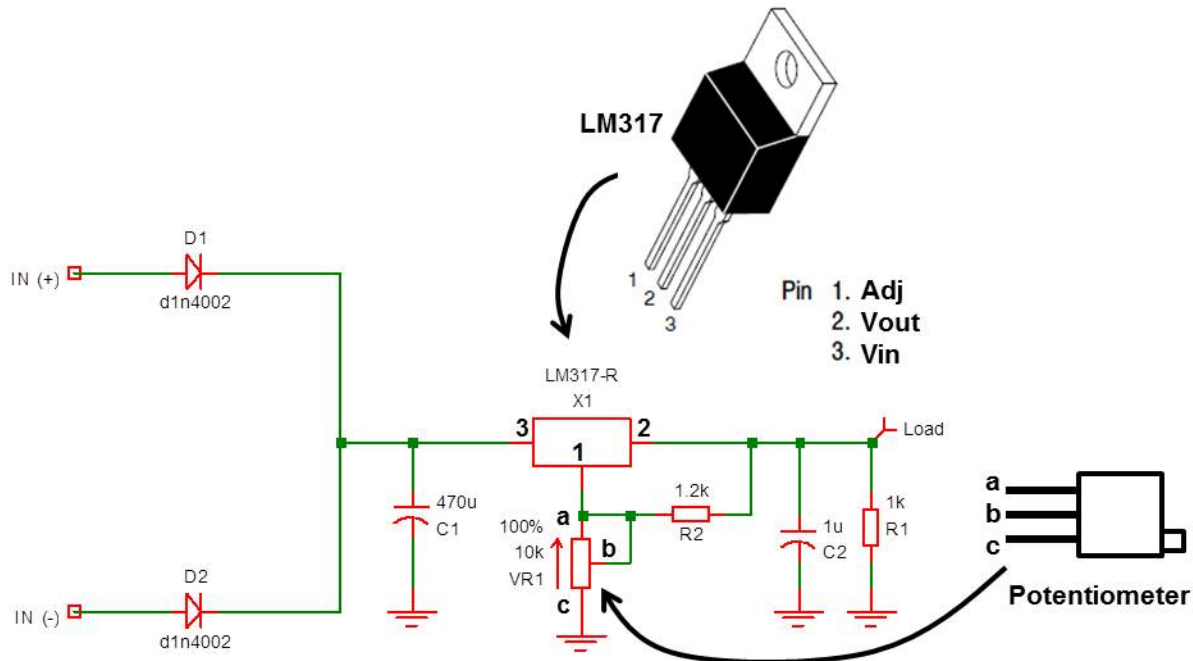

Fig. 5: Adjustable power supply using a full-wave rectifier and LM317 voltage regulator chip.
- Step 4a: Fig. 5 shows the circuit for testing.
- The LM317 is the three-pin chip (see Fig. 5 for pin diagram).